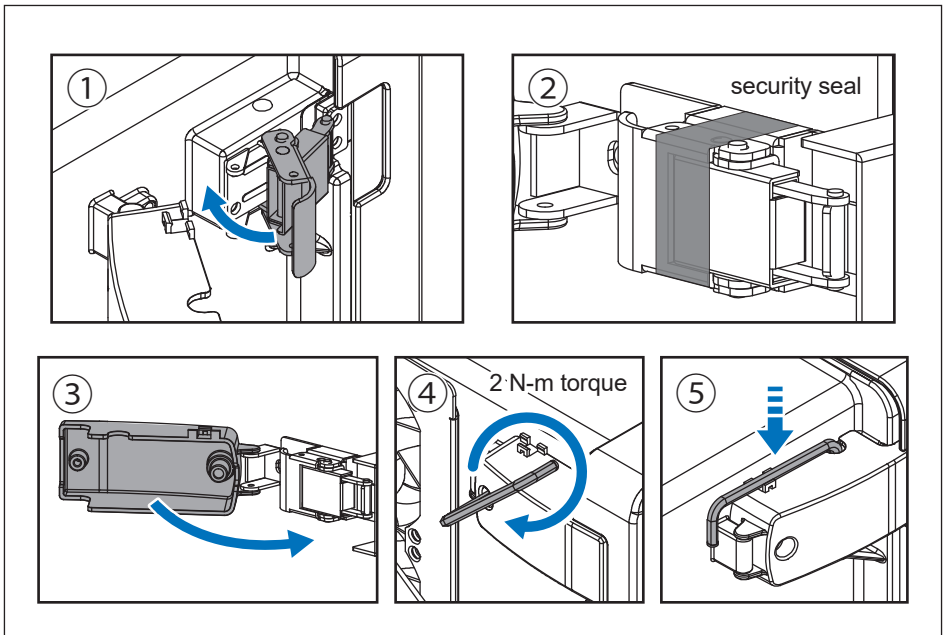

Figure 5-4: Close the door
4. Buckle the latch lock as **Figure 5-4-①** and apply a brand new one-time-use security seal (item 8, **Table 2-1**) on the toggle latch as **Figure 5-4-②**.
5. Fix the protection cover by the hexagon wrench as **Figure 5-4-④**.
6. The hexagon wrench can be fixed on the protection cover as **Figure 5-4-⑤**.